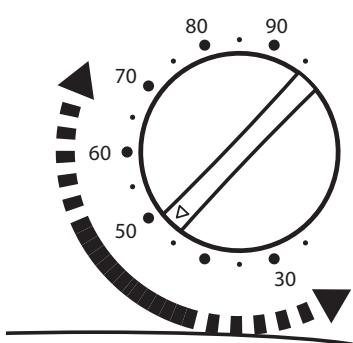

FIGURE 15: Dial
2. Turn the dial and point it to the known humidity in the area. "FIGURE 15: Dial".